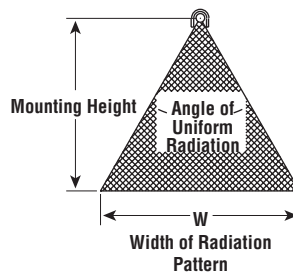

Figure 3 — Pattern Area
- Estimate** (tentatively) the radiated pattern area. Add length of fixture to the fixture pattern width ( $W$ ) to establish pattern length ( $L$ ). Pattern Area =  $L \times W$  (Fig. 3).